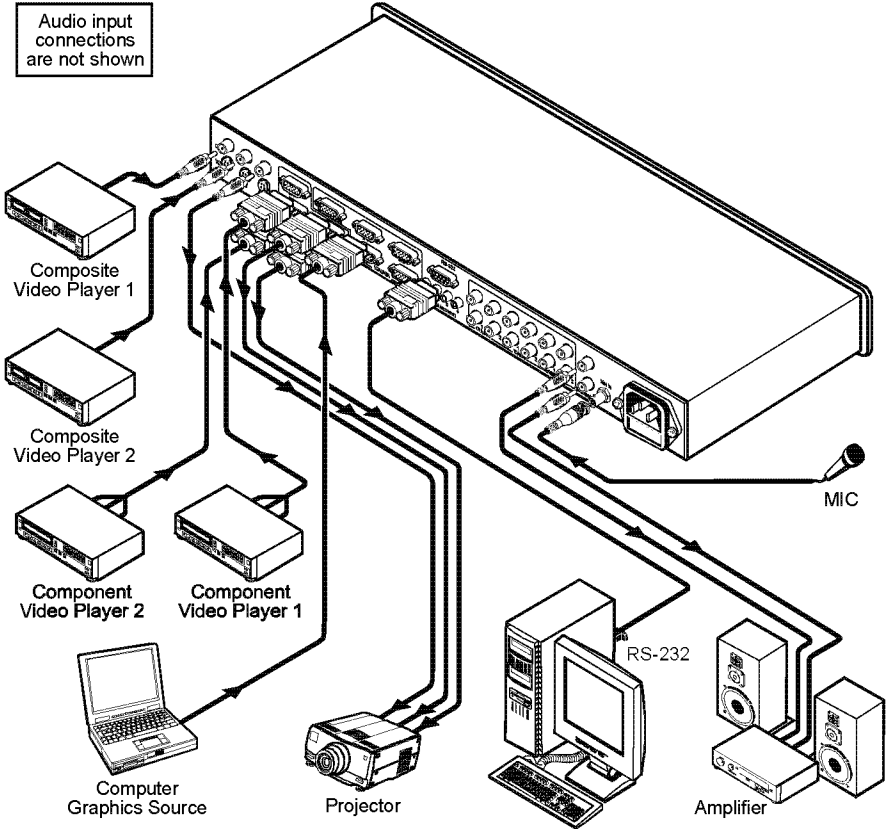

Figure 3: Connecting the VP-23C Presentation Switcher
In Figure 3, the audio input connections are not shown, except for the microphone. In this example, all the outputs are connected to the same projector. Use the projector controller to switch between the **VP-23C** video outputs1.
To connect2 the **VP-23C**, as illustrated in the example in Figure 3, do the following3:
3. Connect the appropriate unbalanced stereo audio sources (not shown in Figure 3).
7. Connect the power cord (not shown in Figure 3).